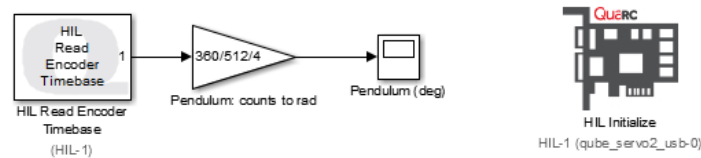

Figure 2.1: Displays measured pendulum angle
Based on the model already designed in Hardware Interfacing laboratory experiment, design a model that measures the pendulum angle using the encoder as shown in Figure 2.1.
2. Build the **SIMULINK®** diagram shown in Figure 2.1. Enter $360/(512 * 4)$ in the encoder sensor gain to measure the pendulum angle in degrees.